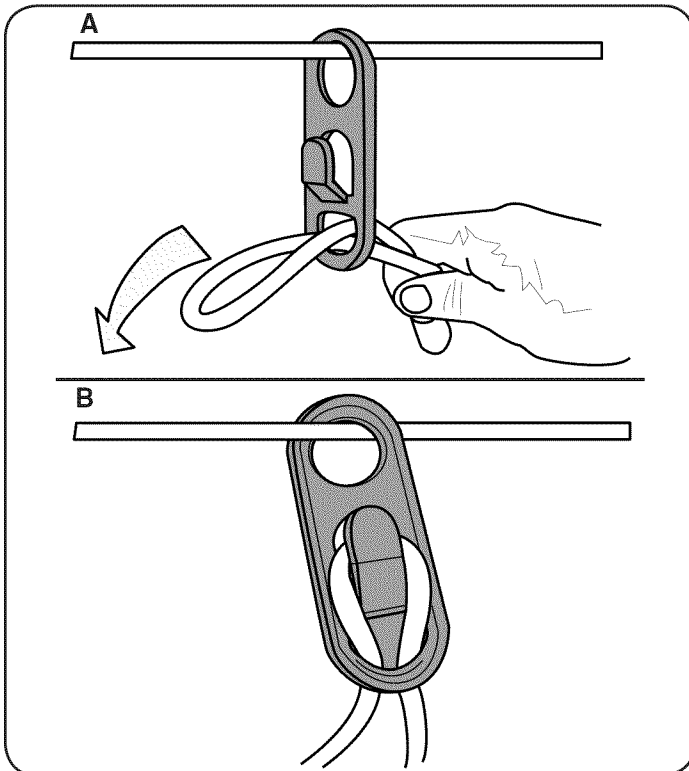

Figure 4
2. Push the loop through the bottom hole in the cord retainer. See Figure 4-A.
3. Position the loop over the clip found on the cord retainer and pull down until the cord fits snugly into the clip. See Figure 4-B.